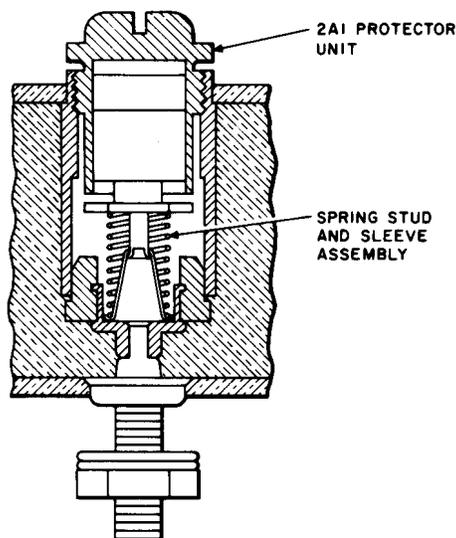

Fig. 13—Noncast Well Construction
4.04 Figure 13 illustrates the 2A-type protector unit and the spring, stud, and sleeve assembly in noncast well design apparatus.